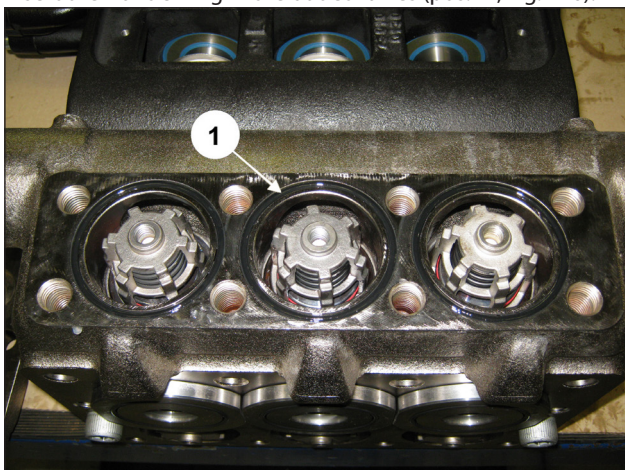

Fig. 146
Insert the front O-ring in the outlet valves (pos. ①, Fig. 146).